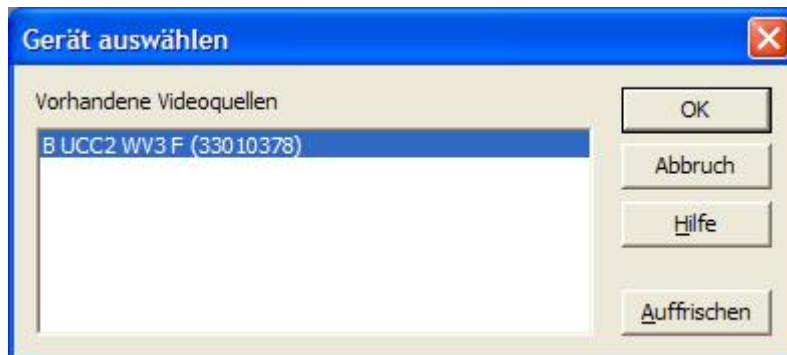

Figure 21: PHYTEC Vision Demo – Select Device
- Choose the correct image source. In „Select Device“, select the desired camera from „USB-CAM-xxx“ (*Figure 21*).